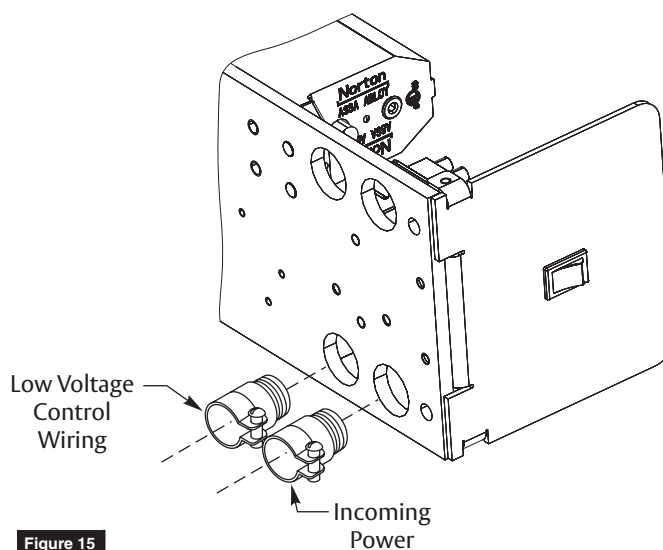

Figure 15
**Concealed Wiring (Figure 15)**